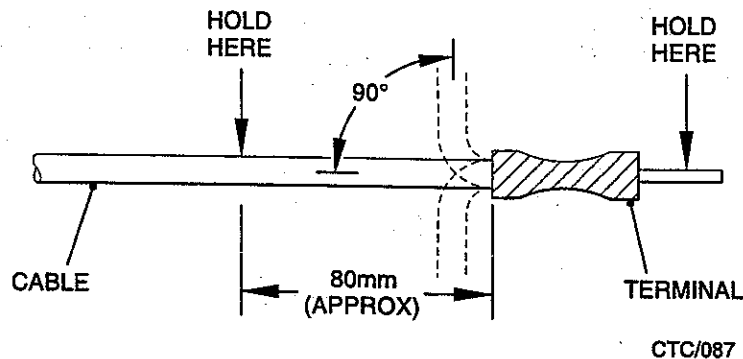

Fig 6 Insulation support test
- 7.4 Remove the termination from the tool and check for correct crimping of the insulation support by holding the termination and bending the cable back and forth through 90 degrees and 180 degrees once only (see Fig 6). The termination should retain its grip on the cable insulation.